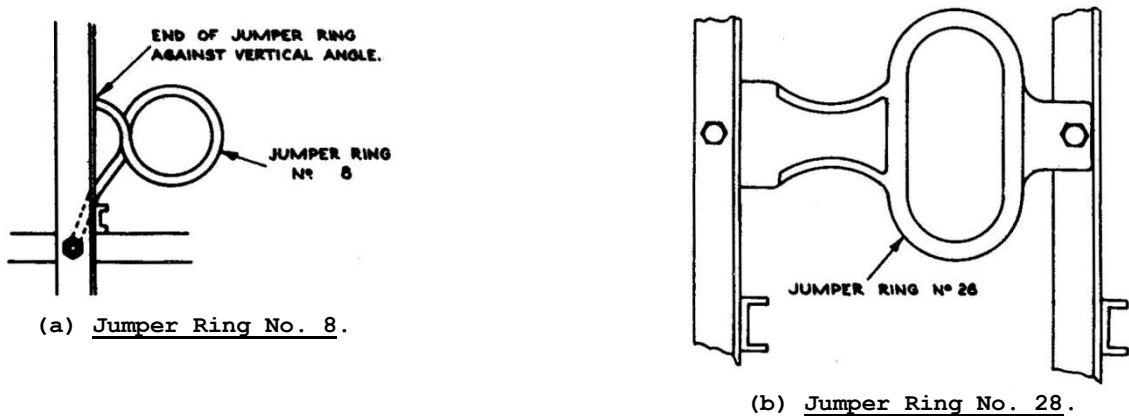

FIG. 2. FITTING JUMPER RING.
3.3 Jumper Rings are provided on frames to facilitate the orderly running of jumper wires. They provide for changing the direction of run of jumper wires and for feeding them neatly into the various terminating strips. The standard types, their applications and methods of fitting are in Table A and Figs. 2, 6 and 7.